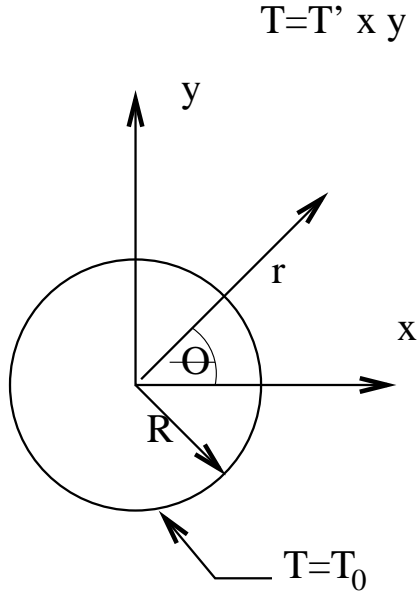

Figure 10: Cylinder in a temperature field.
9. Solve the two-dimensional heat diffusion equation,  $\nabla^2 T = 0$ , for the temperature field around a cylinder, as shown in figure 10, when the temperature at a large distance from the cylinder is  $T = T'xy$ , and the temperature at the cylinder surface is a constant,  $T_0$ . Note that